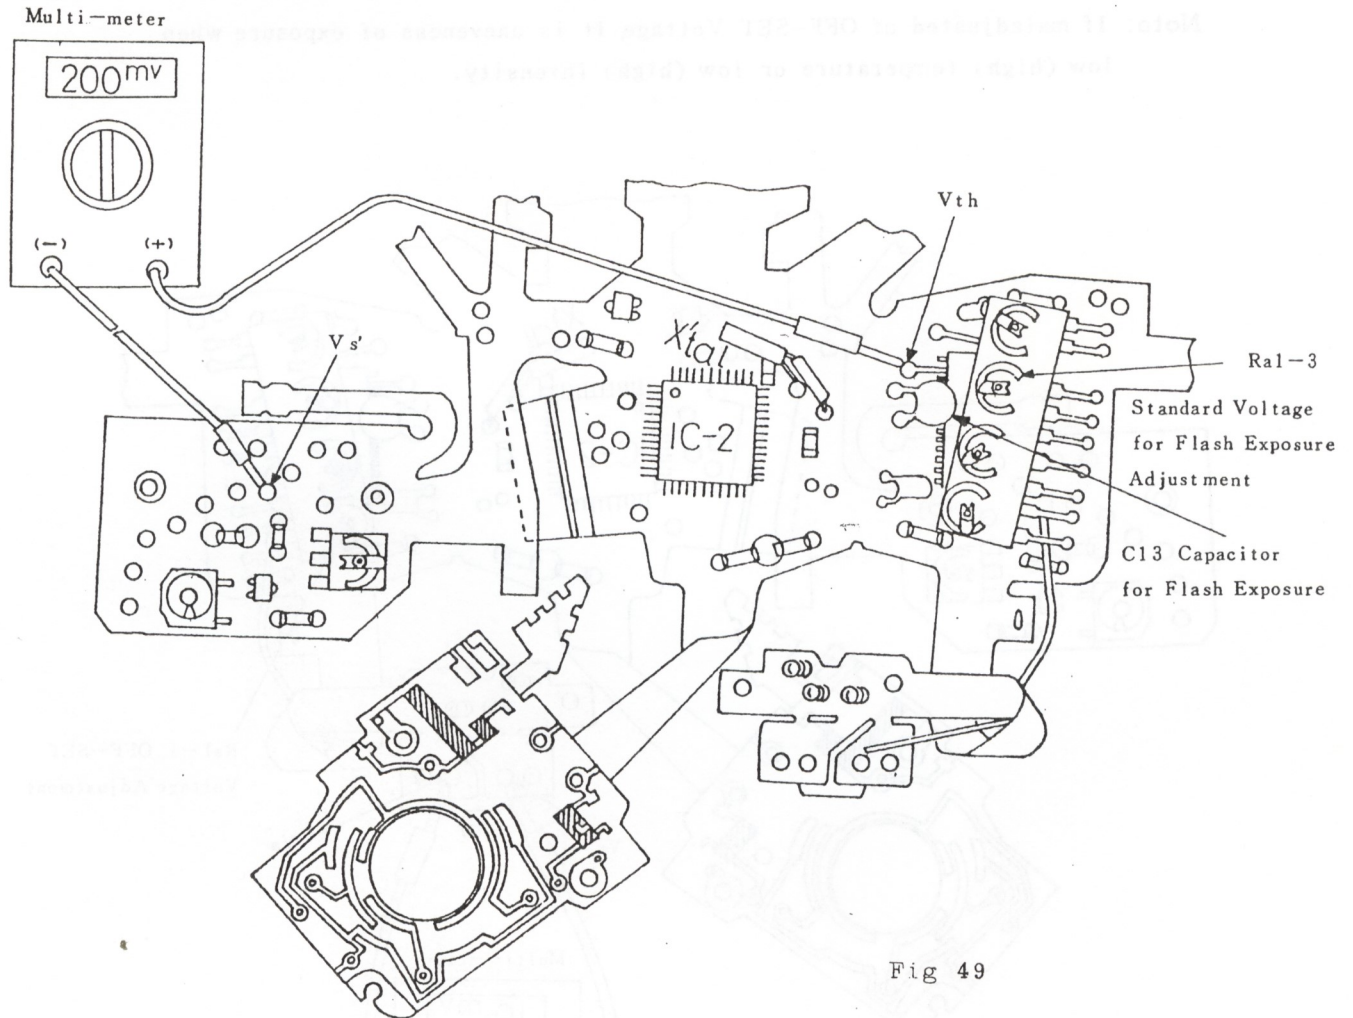

Fig 49
- ① Supply 5 volts from Regulated D.C. Power Supply to the camera.
- ② Connect (+) of digital multi-meter to Vth (-) of digital multi-meter to Vs', and then read the voltage. (See Fig 49)